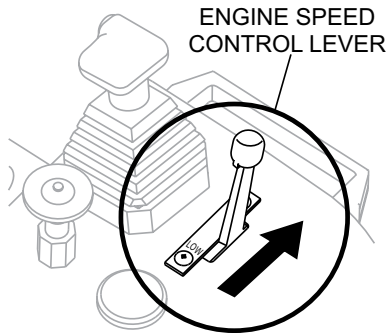

Figure 12. Engine Speed Control Lever (High)
- Place the engine speed control lever, (Figure 12) in the **HIGH** position.